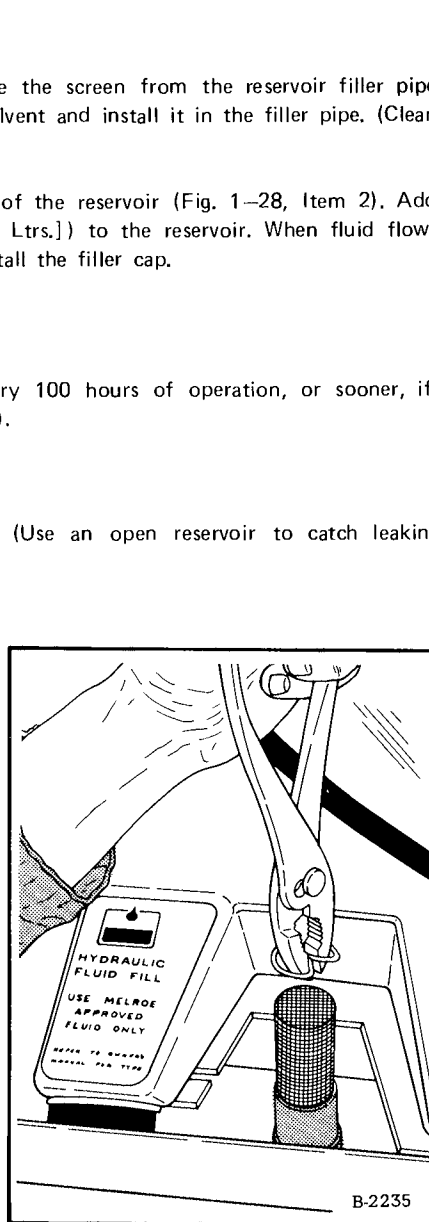
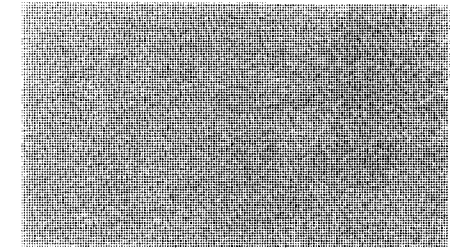

Fig. 1-31 Removing Filler Pipe Section
Fig. 1-30 Draining Reservoir (520, 530)
(1) Remove the hose from the outlet elbow on the oil cooler (long hose) and put the end into a clean reservoir (Fig. 1-30).
(2) After all fluid has been removed, connect the hose to the cooler.
(3) Remove the spring clip and remove the screen from the reservoir filler pipe (Fig. 1-31). Wash the screen in clean solvent and install it in the filler pipe. (Clean the reservoir screen only when necessary.)